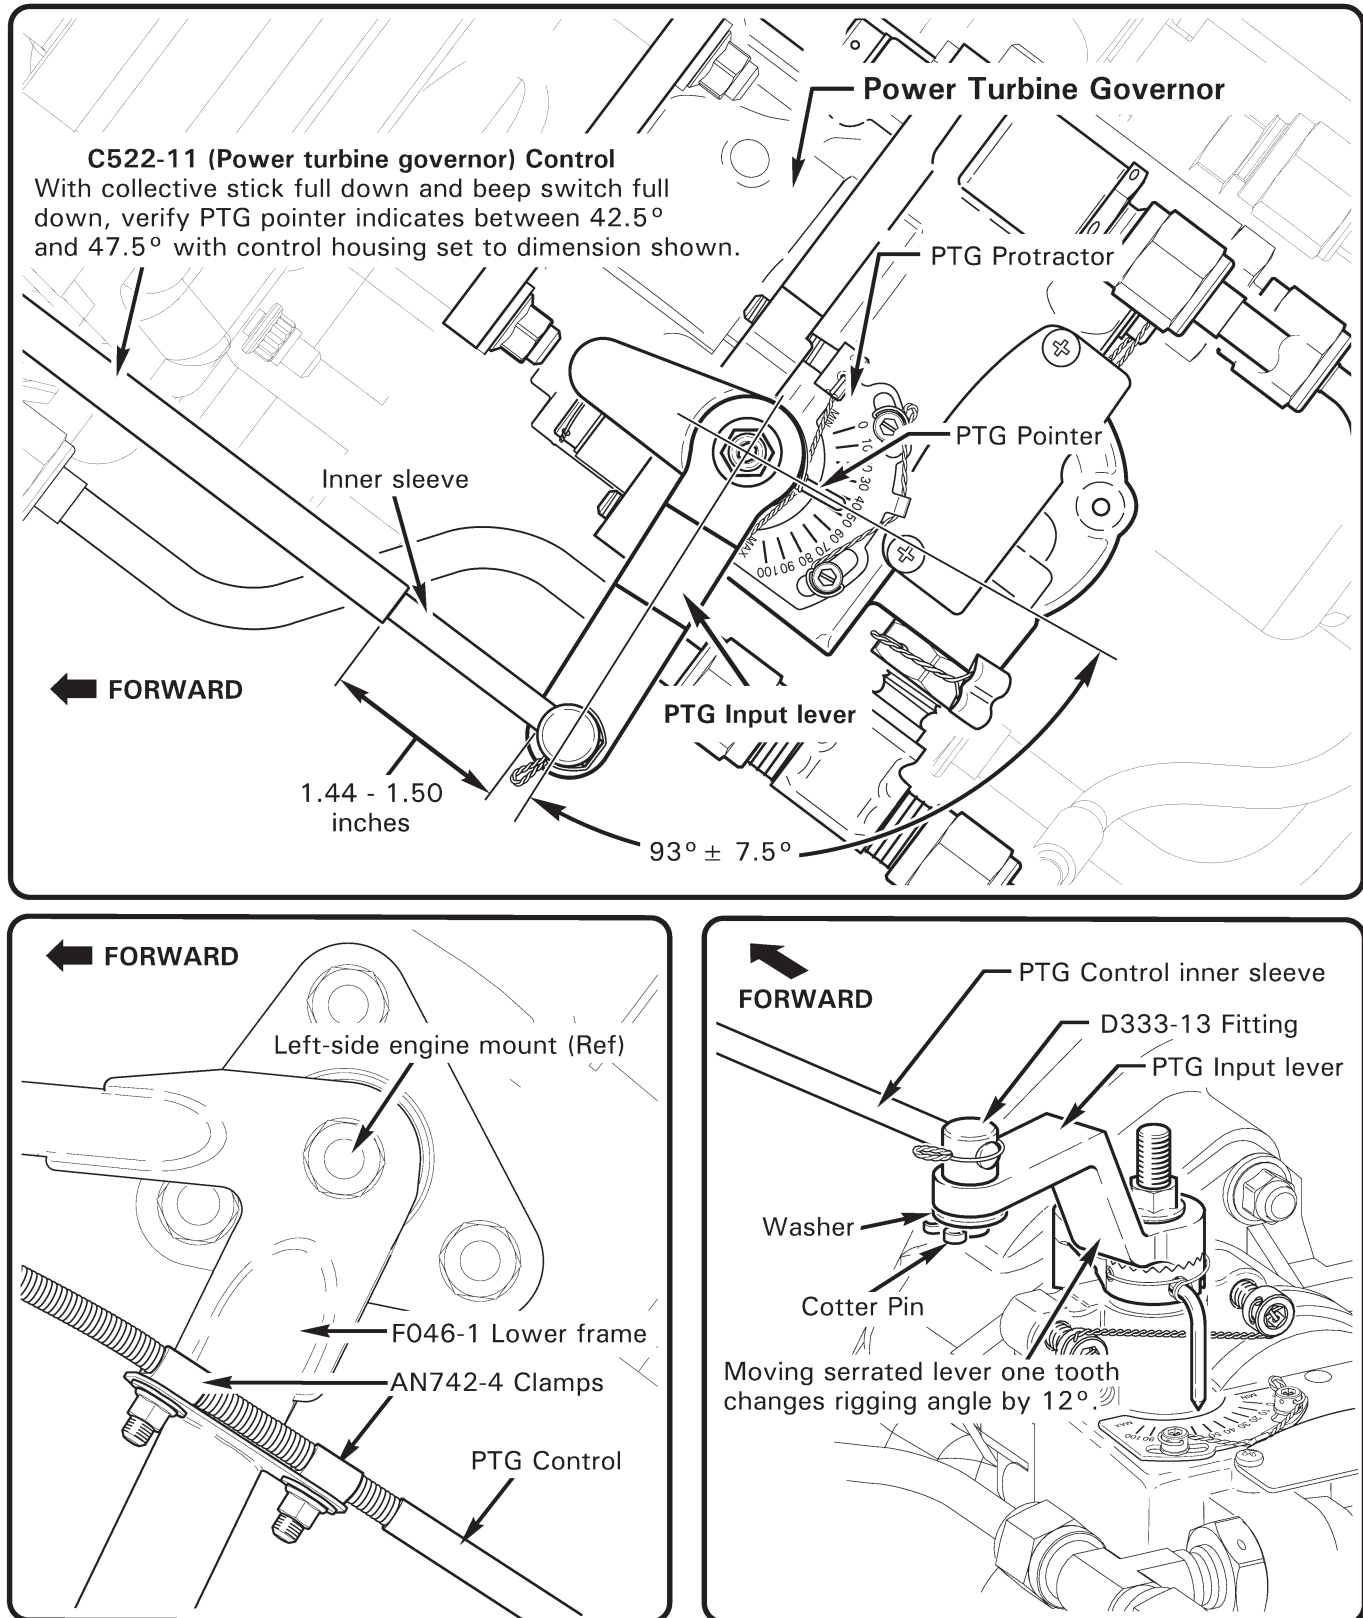

FIGURE 76-2 POWER TURBINE GOVERNOR
2. Refer to Figure 76-2. Remove cotter pin and washer securing C522-11 (power turbine governor) control inner sleeve and D333-13 fitting to PTG input lever.
2. Refer to Figure 76-2. Verify PTG input lever rigging angle is $93.0^{\circ} \pm 7.5^{\circ}$. As required, remove hardware securing serrated levers and reposition to proper angle. Install hardware, special torque nut per Section 20-33, and torque stripe per Figure 5-1.
2. Refer to Figure 76-2. With collective stick full down, "beep" collective toggle switch to full down. Verify PTG pointer indicates between 42.5° and 47.5° on PTG protractor. Turn BATTERY switch OFF.